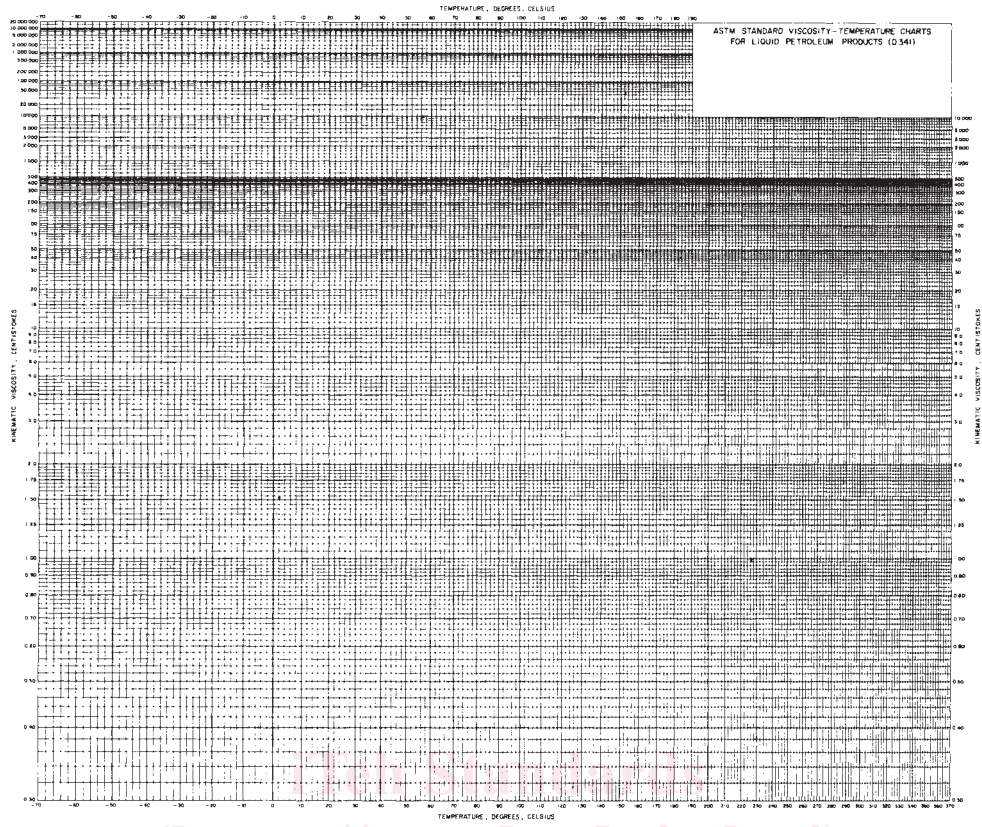

FIG. 1 Facsimile of Kinematic Viscosity-Temperature Chart I High Range (Temperature in degrees Celsius)
1.1 The kinematic viscosity-temperature charts (see Figs. 1 and 2) covered by this standard are a convenient means to ascertain the kinematic viscosity of a petroleum oil or liquid hydrocarbon at any temperature within a limited range, provided that the kinematic viscosities at two temperatures are known.